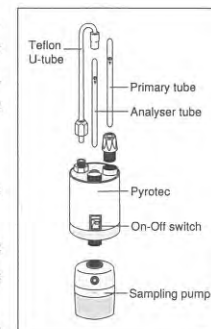

fig. 1
5. Insert the primary tube and the analyser tube into Gastec Pyrotec Pyrolyzer with arrow (➡) on the tube pointing toward Gastec Pyrotec Pyrolyzer (fig. 1).